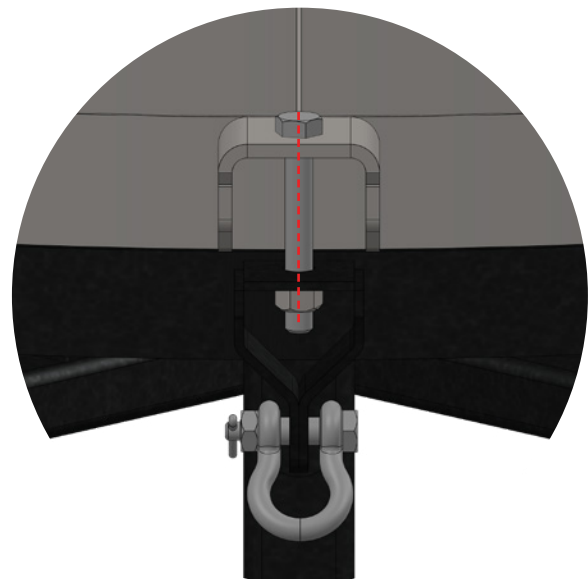

Fig. 2: anchor assembly detail
- Ensure the tank anchor tab holes are aligned with the stand lugs. (See Fig. 2)
- Secure the tank using the provided  $\frac{3}{4}$ " Grade 8 bolts and Distorted thread lock nuts. (See Fig. 2)